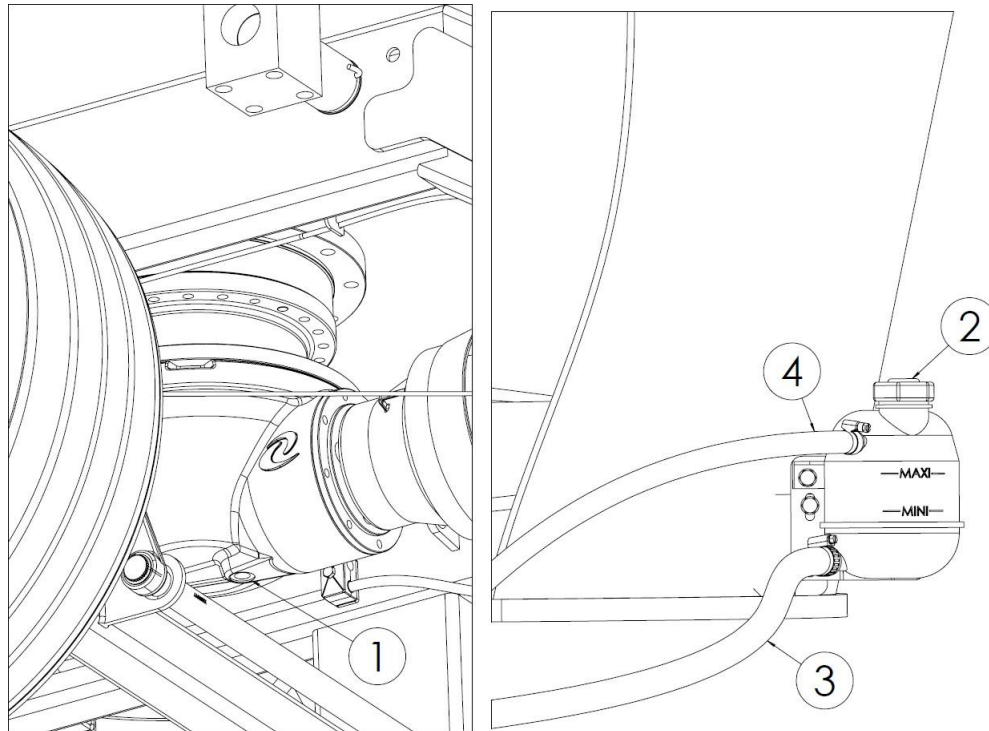

Figure 55. Oil change in the planetary gear: 1 - drain plug, 2 - expansion tank plug, 3 - supply line, 4 - vent line
- Remove the oil filler plug (1) of the gear and the oil level plug (2) - see Figure 55.
- Remove the drain plug (3), drain the oil from the two-speed gear into a container for used oil.